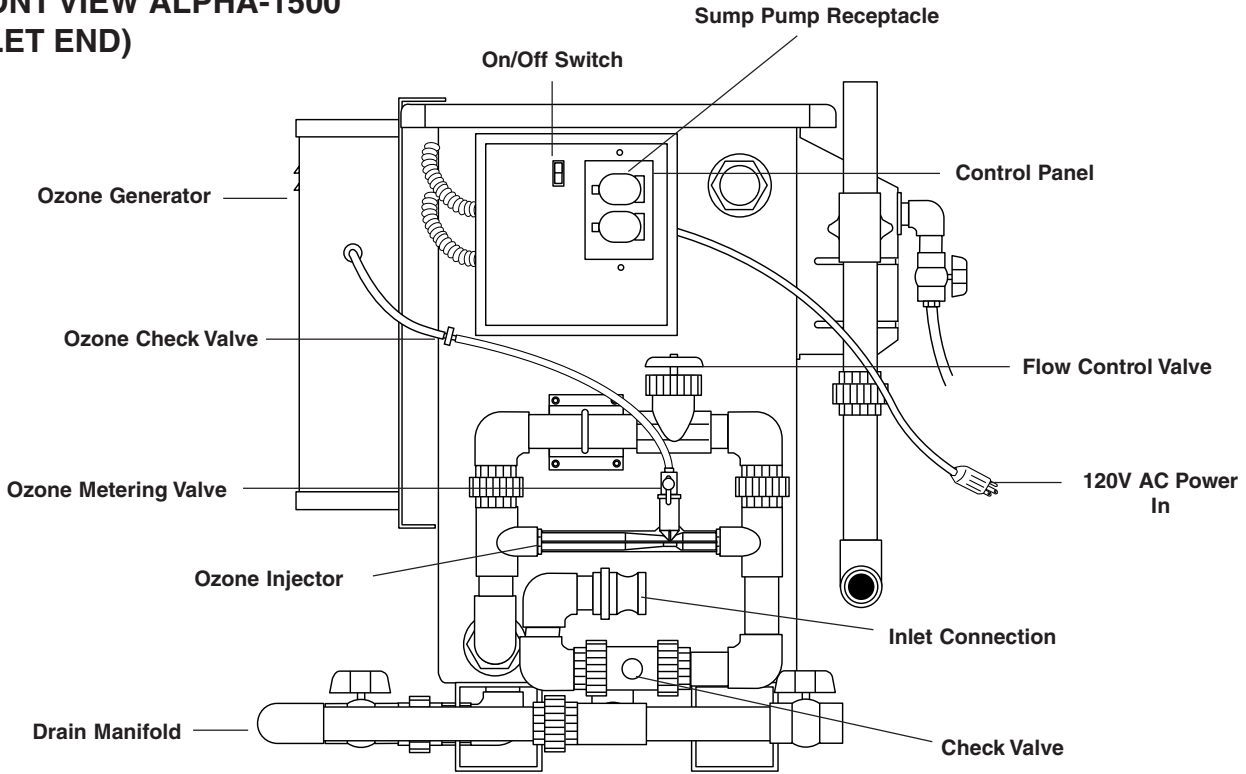

Figure 1
- Turn the sump pump switch on the Alpha to "ON" (see Figures 1 & 2).